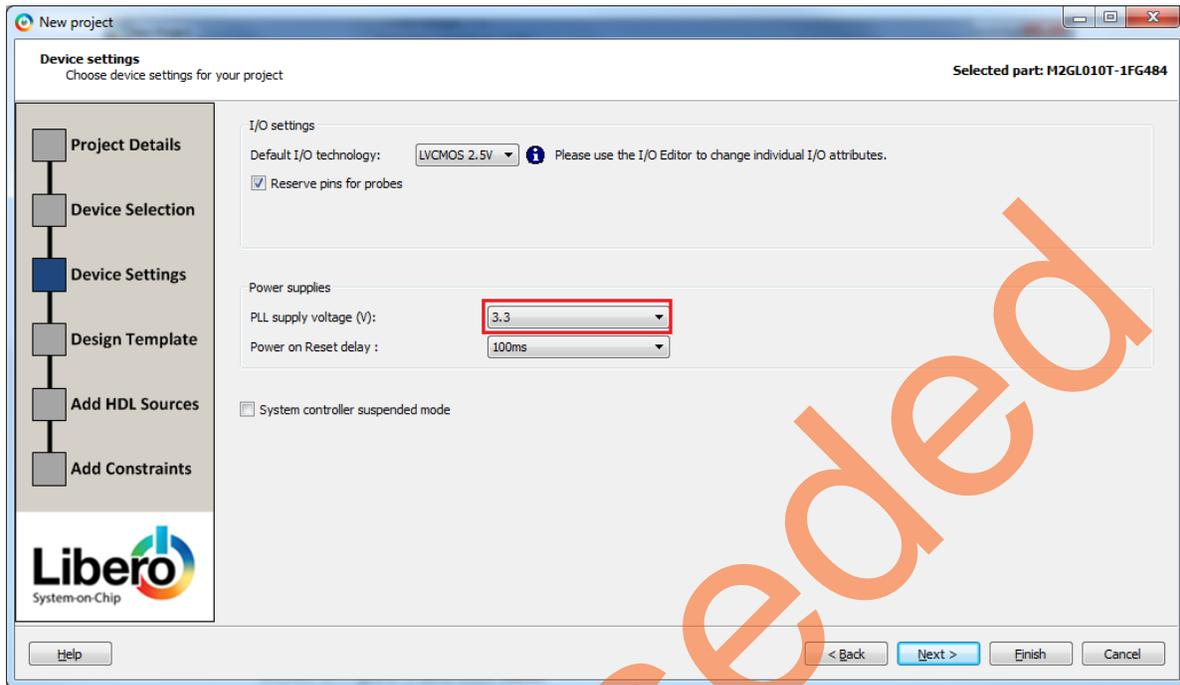

Figure 5 • New Project - Device Settings
5. Select the **PLL supply voltage (V)** as 3.3 from the drop-down list as shown in Figure 5 and click **Next**.